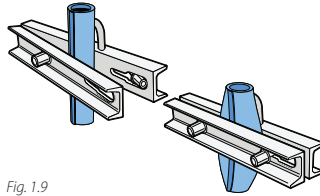
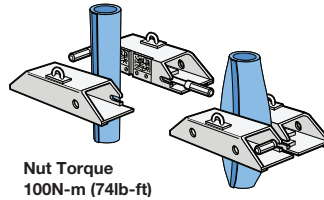

Fig. 1.9
Fig. 1.10
- 1.2.3.1.1 The light duty WELLMASTER installation clamp is fabricated from two steel channels bolted together with one fixed bolt and one swing bolt. Each clamp has a serial number and is certified to 3.5 tonnes lift. The general appearance and method of use is illustrated in the Fig. 1.9.
- 1.2.3.2.4 Position the half clamp with the lifting loop behind the riser and with the power cable attachment strip positioned as shown in Fig. 1.9. Ensure any cable already fitted is outside the clamp.
1.2.4.1.1 The clamp is fabricated from a reinforced box section, each half clamp being provided with serrated clamp jaws and a lifting eye. Each clamp has a serial number and is certified to 5 tonnes lift. The general appearance and method of use is illustrated in the Fig. 1.10.
1.2.4.2.3 Position the clamp as shown in Fig. 1.10 ensuring:
- 1.3.2.6 Clamp the **WELLMASTER** about 500mm above the pump, ensuring the thepower cable remains outside the clamp (refer to section 1.2.3 and Fig 1.9 for light duty clamp attachment and section 1.2.4 and Fig 1.10 for the heavy duty clamp attachment).